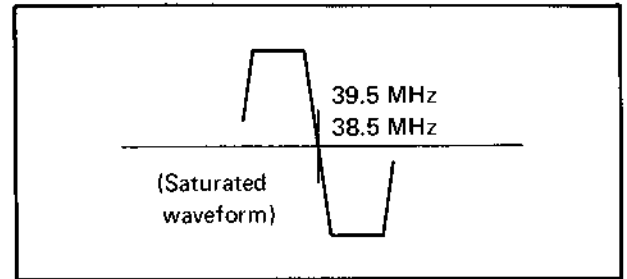

Fig. 6-56
8. Confirm that both the top and bottom of curve are regulated in level even when input level is lowered by 3 dB as shown in Fig. 6-56.